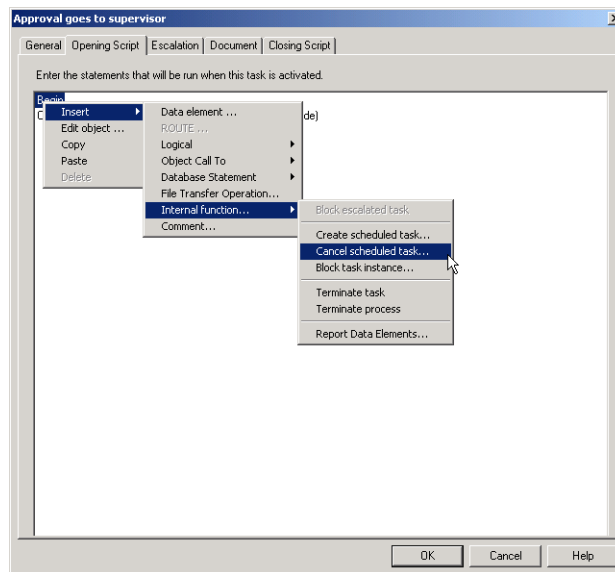

Figure 31-15. Task Configuration dialog with the Cancel Scheduled Task function selected.
- 1 To cancel a scheduled task, click on the **Opening** or **Closing Script** tab, right-click on a statement, select the **Insert** drop-down menu, select the **Internal Functions** drop-down menu, then select **Cancel Scheduled Task** (see Figure 31-15, below).